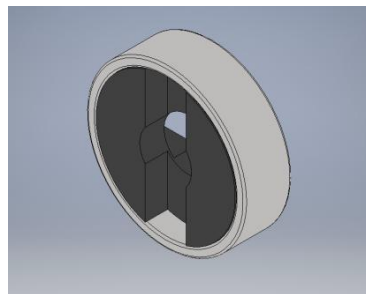

Figure 2
- 3) Remove the last two screws and gently pull the Left Drive Section free of the Extrusion Assemblies. **Set aside away from the work area to minimize the chance of the left and right drive sections getting close to each other.** The Drive Coupler (Figure 2) stays with the Rear Extrusion Assembly.